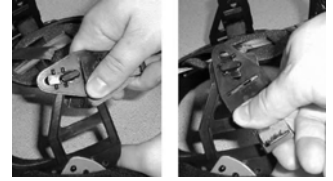

FIG. 5, FIG. 6
3. Set headband brackets to desired position and snap the four attachment points back into place. **(Fig. 5, 6)** Note: Front and back can be adjusted differently for more customized fit.